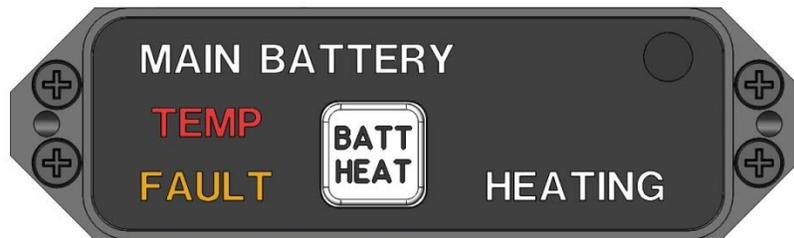

Figure 4
- Pressing the BATT/HEAT momentary switch for less than two seconds lights all annunciations (as depicted in Figure 4) while the switch is activated.